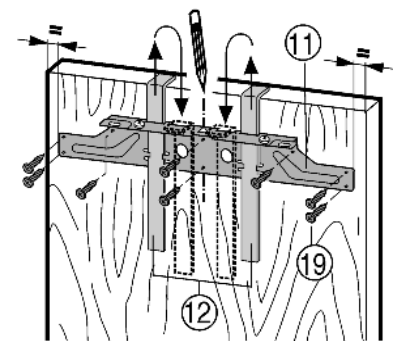

Fig. 17
- ▶ Attach fastening crosspiece Fig. 17 (11) to the inside of the unit door using the assembly aids Fig. 17 (12).
- ▶ Centre fastening crosspiece Fig. 17 (11): mark a short centre line on the unit door and place the tip of the crosspiece arrow over it.
- ▶ Secure the fastening crosspiece Fig. 17 (11) with at least 6 screws Fig. 17 (19).
- ▶ Secure the fastening crosspiece Fig. 17 (11) with 4 screws Fig. 17 (19) at the edge.
- ▶ Raise the assembly aids Fig. 17 (12) for removal, turn them and insert them into the adjacent openings.